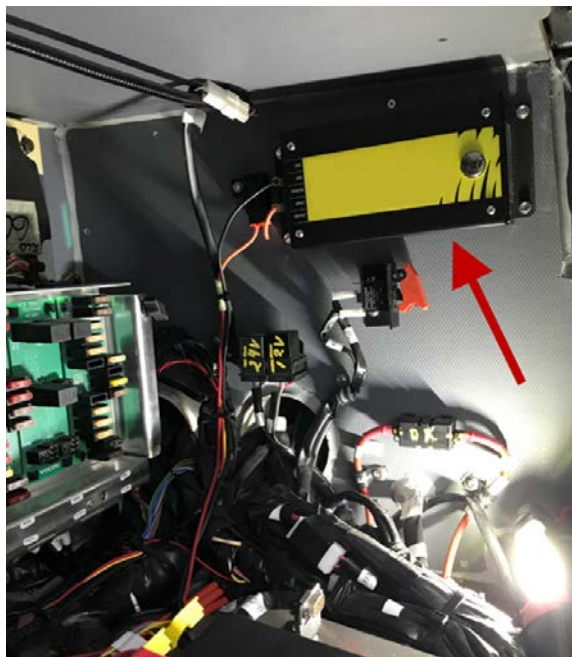

FIGURE 5
9. Install the converter on the top of the wall, on your right when facing the electrical compartment. Use four self-drilling screws. Wiring must be on the left side (Figure 5).